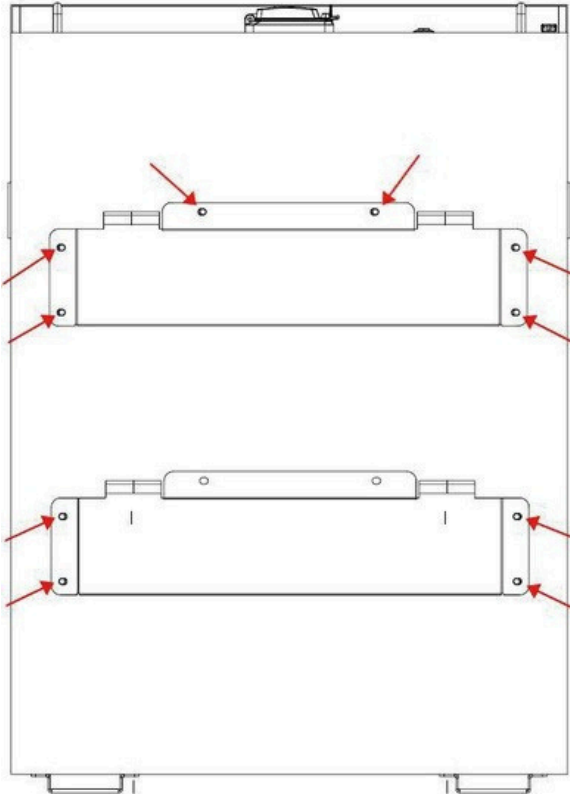
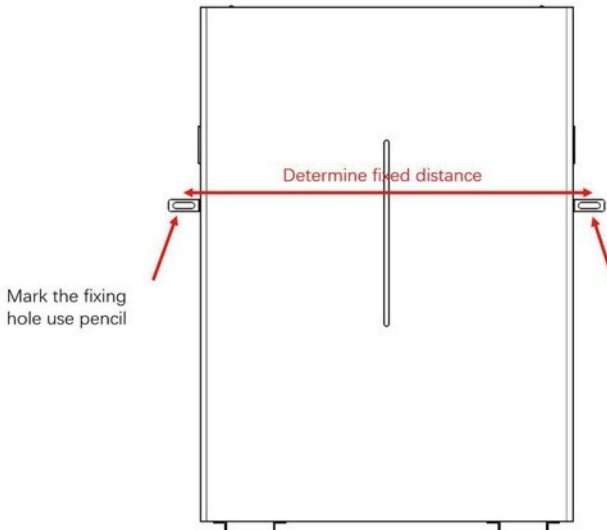

Figure 5-2
Figure 5-5
- Using the ten M6 screws, secure the mounting bracket to the rear of the battery as illustrated in Figure 5-2.
- Stand the battery on the side of the wall, mark the location of the mounting hole. Choose the recommended drill head (as shown in the below picture) to drill 2 holes on the wall, 100-110 mm (3.94" - 4.33") deep, as shown in Figure 5-2 and Figure 5-5.
- Use a proper hammer to fix the battery to the wall, fit the expansion bolt into the holes, as shown in Figure 5-2.